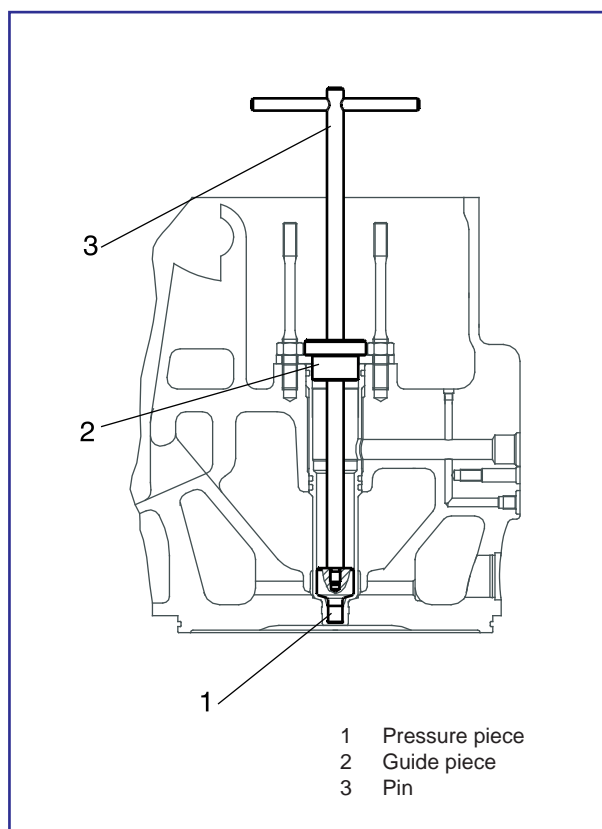

Fig 1 Grinding tools complete
2) If necessary, grind the seating face with the grinding tool see Fig. 1.
3) Place grinding tool in cylinder head, paying attention to guide piece (2) is in correct position inside cylinder head.
5) Remove grinding tool see Fig. 1 after the grinding process is complete and clean valve seat carefully.